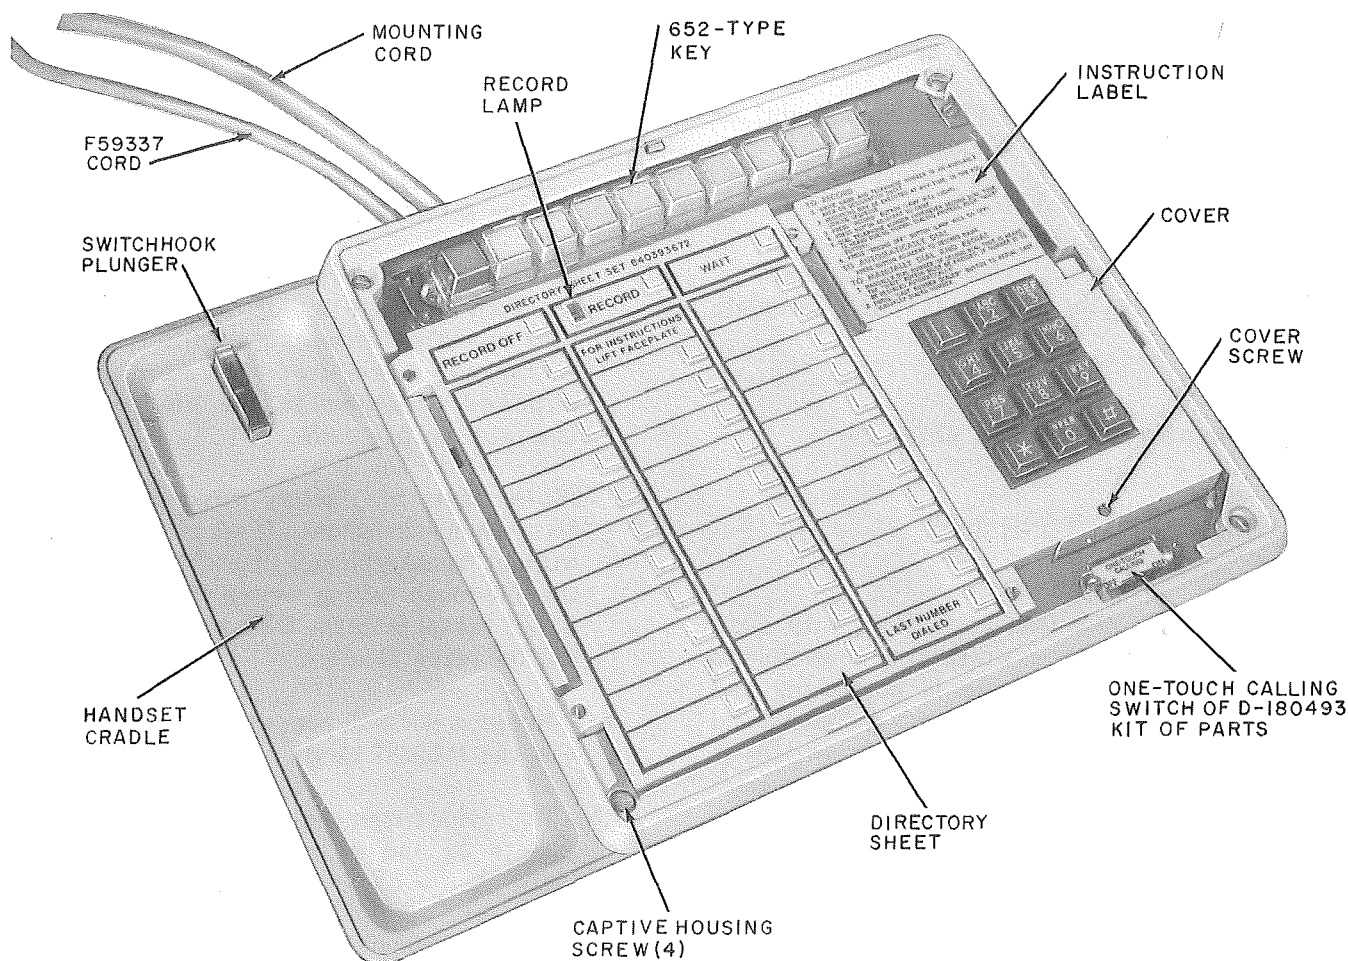

Fig. 2—Telephone Set With Handset and Faceplate Removed
2.06 Operating Features (Fig. 2).
3.05 The directory sheets (Fig. 2) fit over the buttons of the memory and are held in place by the faceplate. Additional sheets are available in the directory sheet set, 840393672.
- (2) Loosen the captive cover screw at the bottom of the white cover around the dial (Fig. 2).
- (3) Remove the cover.
- (4) Remove the key (3.18).
- (5) To replace the cover, the two tabs of the cover (one at each side just above the opening for the dial) must be aligned with holes in the chassis before the screw is refastened. Failure to do this will result in improper seating of the faceplate.
- (1) Remove the faceplate (3.19).
- (4) Loosen the two captive screws that hold the dial in place.
- (5) Gently raise the dial and disconnect 12 position plug from terminal board.
- (6) Rotate dial over onto the Memory.
- (7) To reassemble; reverse procedure.